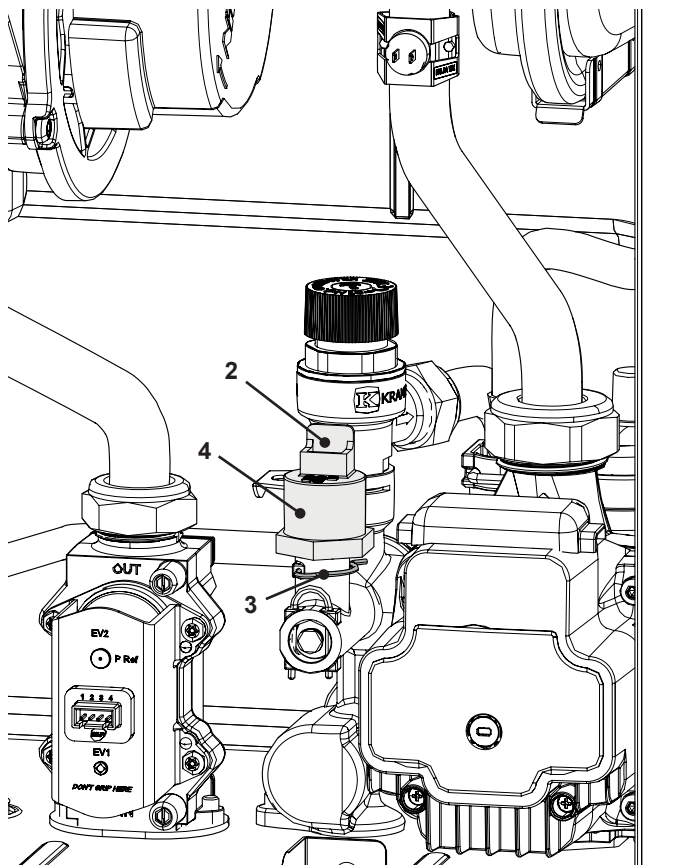

Figure 10.2
- 2 Remove the fixing spring "3" (Figure 10.2) and remove the primary circuit pressure switch "4".
- 3 Disconnect the connector "2" (Figure 10.2).